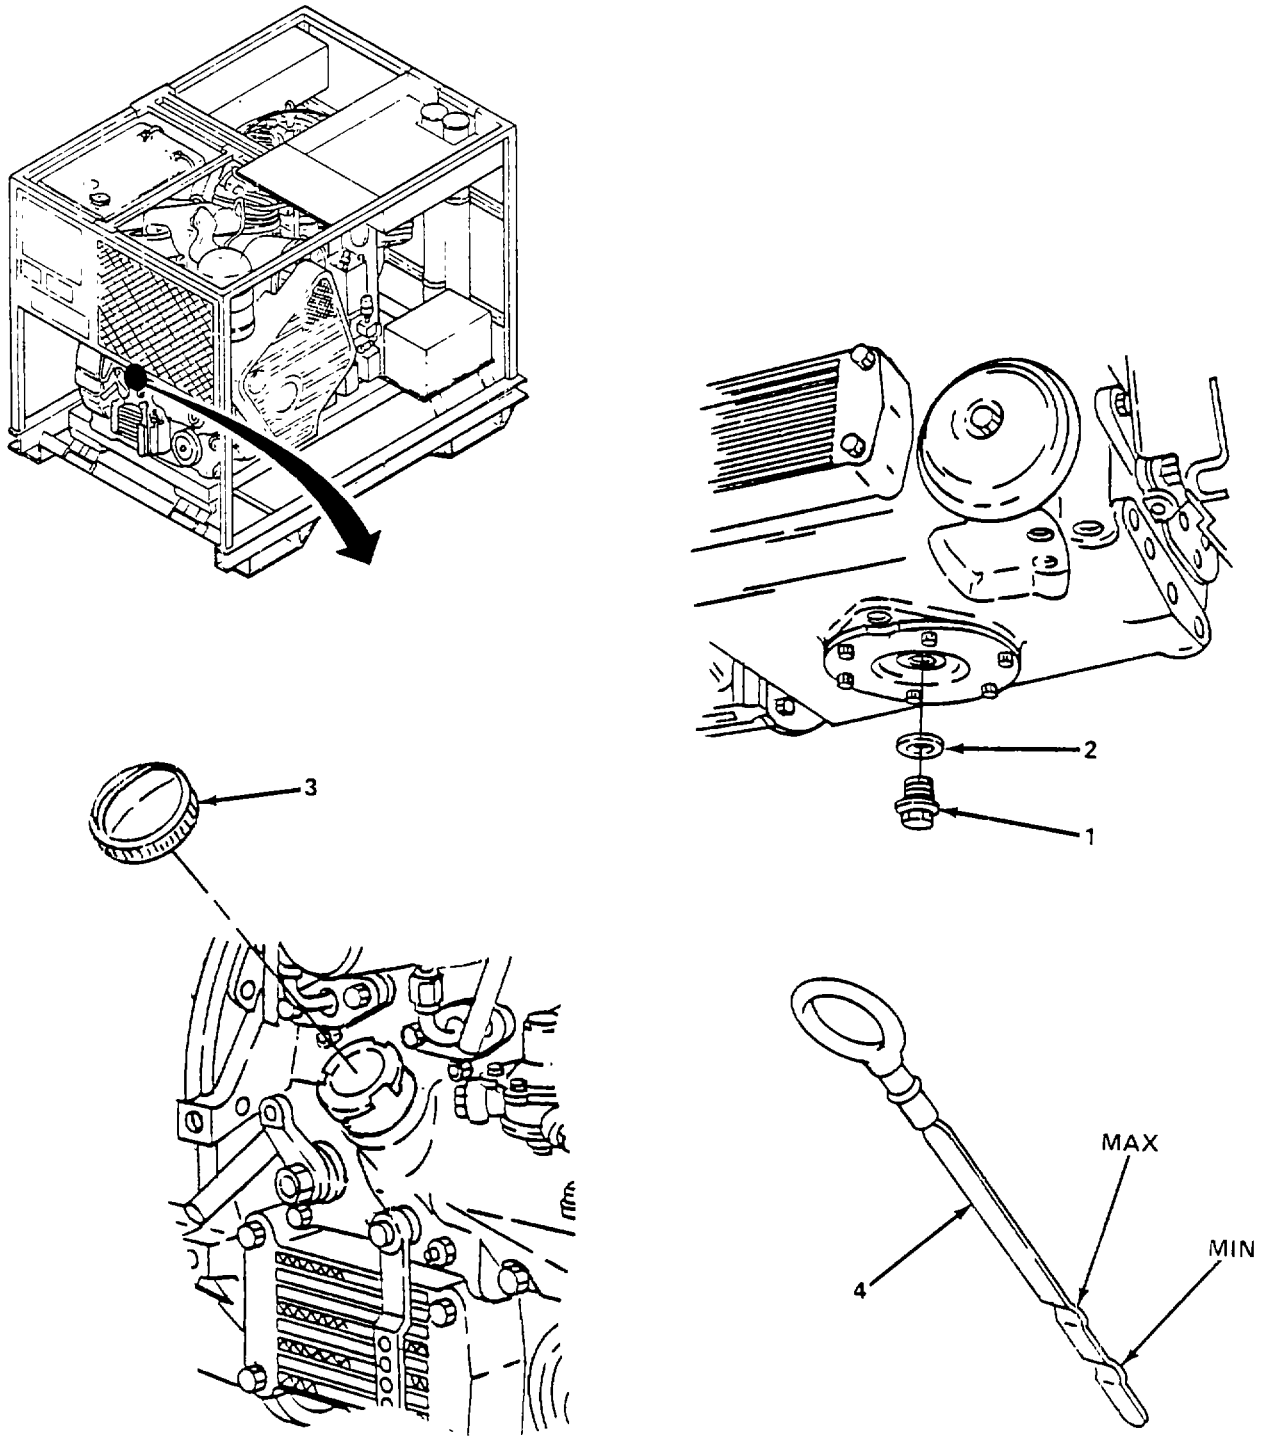

Figure 4-34. Engine Assembly, Service.
a. Service. (figure 4-34)
- (1) Remove drain plug (1) and washer (2) and drain oil into suitable container.
- (2) Clean off drain plug (1).
- (3) Install drain plug (1).
- (4) Remove filler cap (3) and fill engine with proper grade and viscosity oil to max mark on dipstick (4).
- (5) Install filler cap (3).